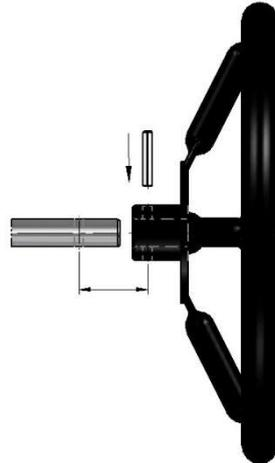

Figure 1.
3. Mounting the handwheel and insert the roll pin as mentioned on below figure 1.